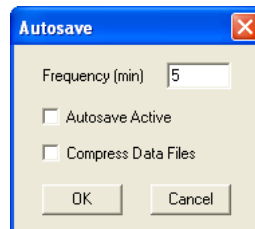

Figure 3-53 Autosave dialog box
- From the **Options** menu, select **Autosave**. The dialog box of Figure 3-53 appears.